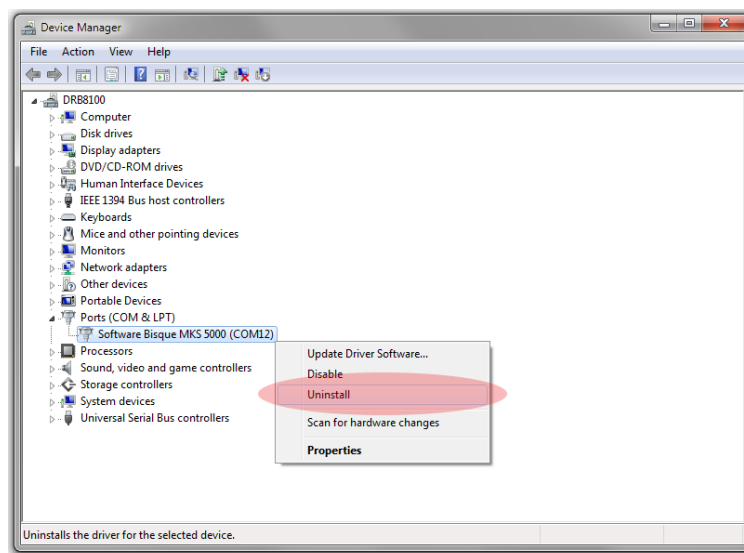

Figure 71: Uninstalling the MKS 5000 driver from the Device Manager.
4. Choose the **Uninstall** command from the pop-up menu (Figure 71).